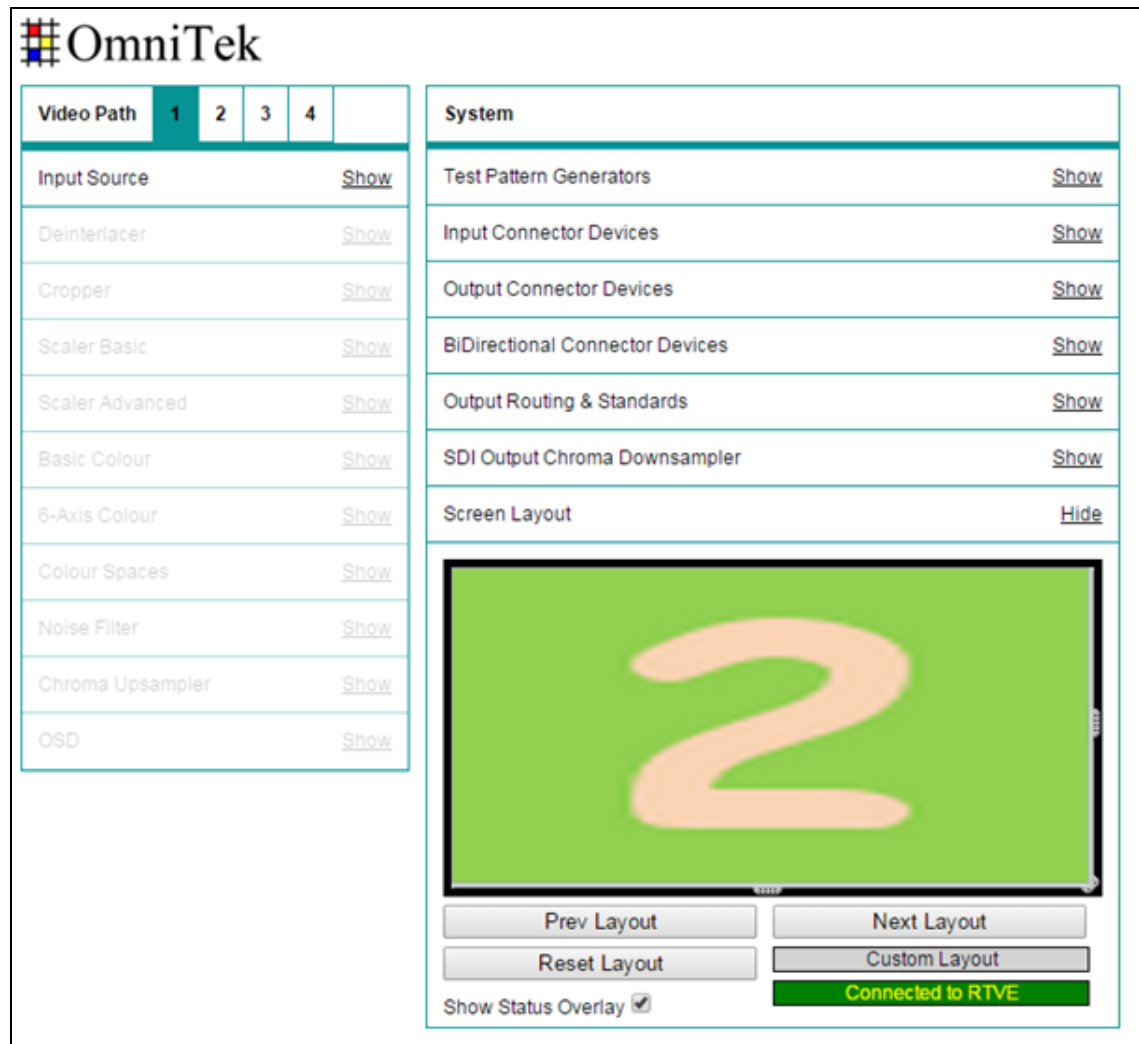

Figure 15: RTVE User Interface
6. Call up the User Interface (UI):
- b. Type the URL `http://oz745-000000000000` (replace 000000000000 in the URL with the MAC address of your board). The User Interface (UI) displays as shown in Figure 15.
As shown in Figure 15, the UI is split into two main sections; the left-hand display panel is used to configure video paths, the right-hand panel is used to configure overall system settings.